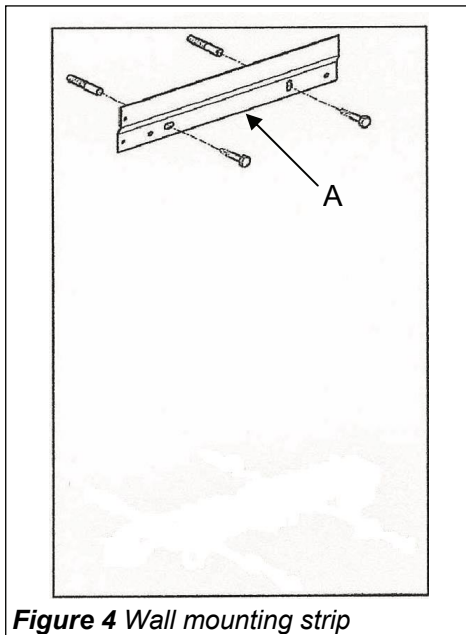

Figure 4 Wall mounting strip
Option One – Wall mounting strip (A) Only (Refer to Figure 4)